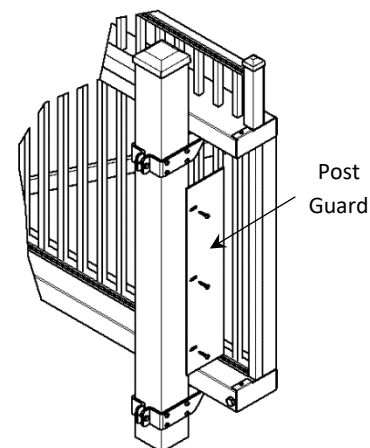

Figure 13
12. Install a safety guard on each support post with screws provided. (Figure 13)